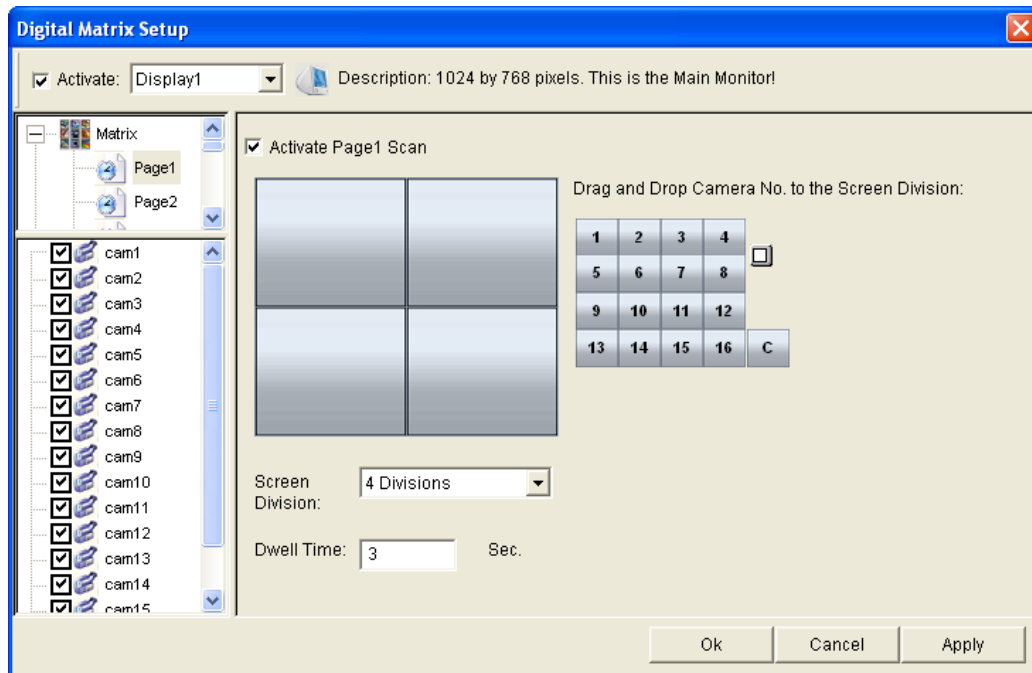

Figure 3-31
9. In the upper-left column, click the **Matrix** icon and return to Figure 3-31.
4. After above settings, click the **Matrix** icon and return to Figure 3-31.
4. Click the **Matrix** icon and return to Figure 3-31. Ensure the **Live Mode** option is selected.